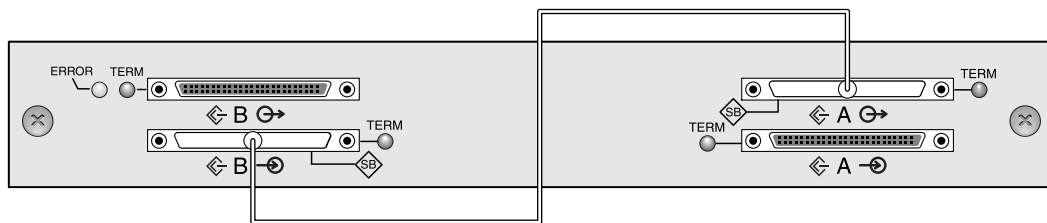

Figure 2-11 Required Jumper Cabling for a Single-Bus Expansion Unit
2. To configure an expansion unit as a single-bus configuration, connect the SCSI jumper cable between SCSI ports (lower left and upper right ports), as shown in Figure 2-11. Tighten the cable jack screws with six full clockwise turns to ensure proper connection and operation.